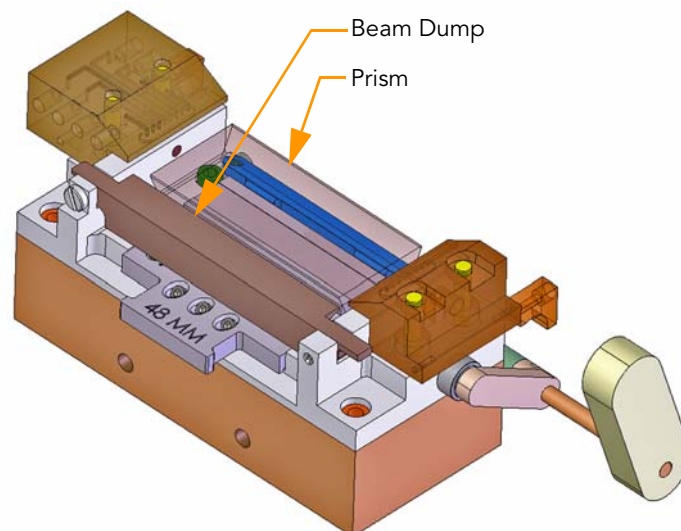

Figure 46 Prism Installed
5. With prism in place, lower the beam dump until it locks into position (Figure 46).